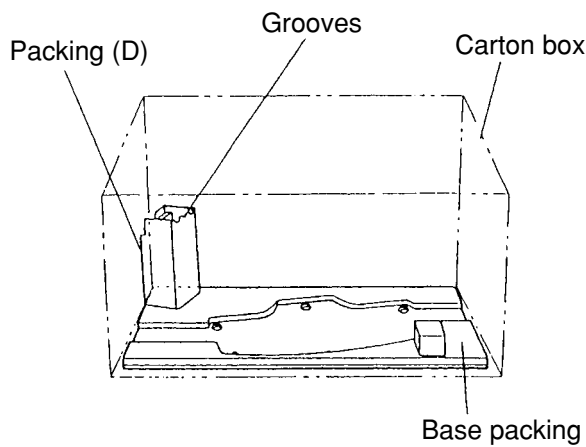

Fig. 55
(4) How to install packings (A) and (D)
Put packing (D) in the U-shaped groove of the base packing in the carton box. (See Fig. 55.)